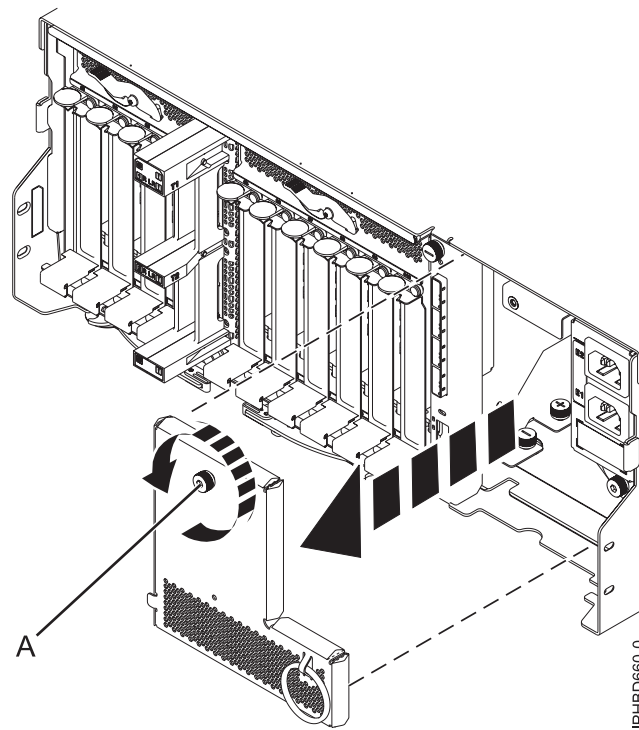

Figure 26. Removing an input power distribution assembly cover
7. On the input power distribution assembly cover, loosen the thumbscrew **(A)**, and then remove the cover as shown in Figure 26.